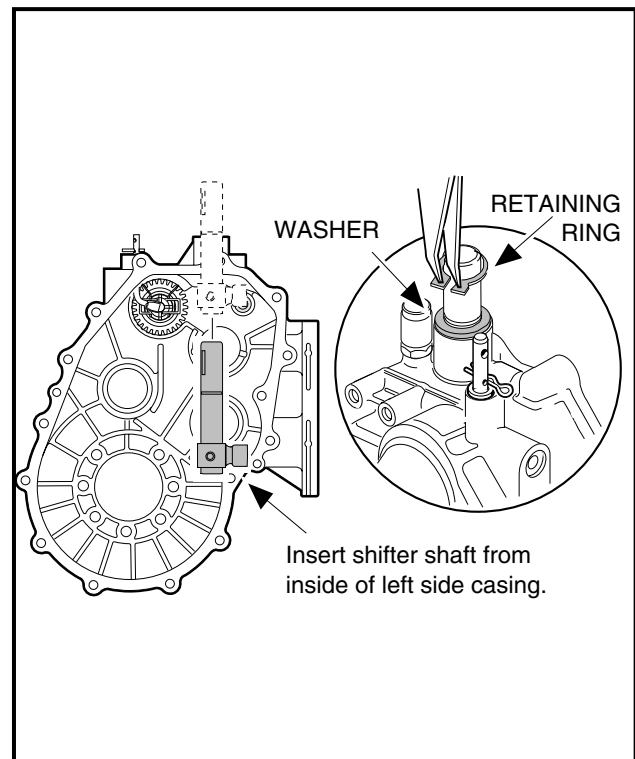

Figure 6-47 Insert Shifter Shaft
6. Install the shifter shaft into the left (driver side) case (**Figure 6-47, Page 6-22**). Install the washer and use external snap ring pliers (0.070 tip) to install retaining ring on the shifter shaft outside of the case. Make sure the retaining ring is in the groove of the shaft.